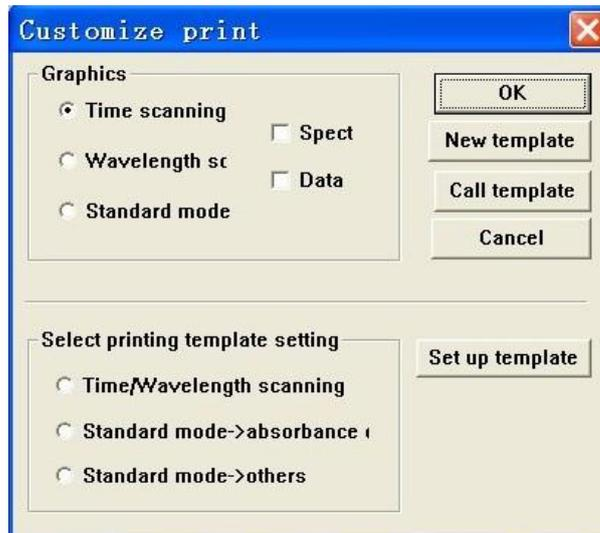

Figure 8-4
5. A dialog will appear as shown in Figure 8-4. (In the dialog, the fields of "Time scanning", "Wavelength scanning" and "Standard mode" correspond to the time scanning, wavelength scanning and quantitative analysis mode respectively)